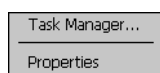

Figure 2-10 Task Manager, Properties Selection Menu
1. Tap **Start > Control Panel > Taskbar and Start Menu ...** . The *Task Manager, Properties* window displays, see Figure 2-10 on page 2-17.